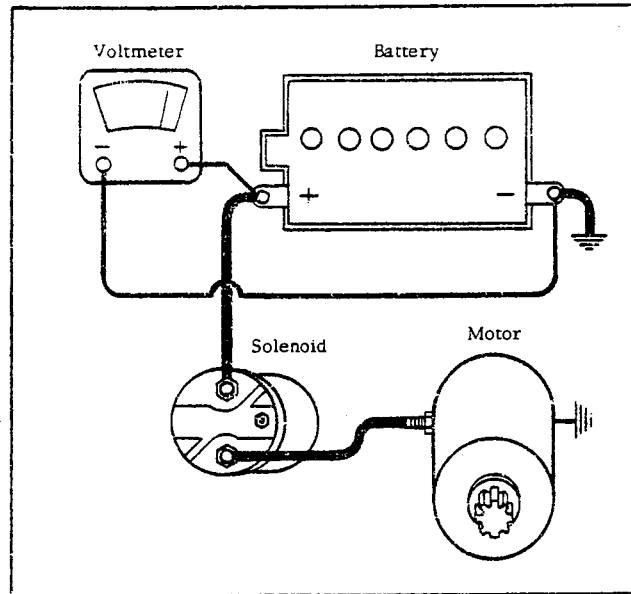

FIGURE 3 (ELECTRA-GLIDE)
2. Connect test leads as shown in Figures 3 or 4 for model being tested.